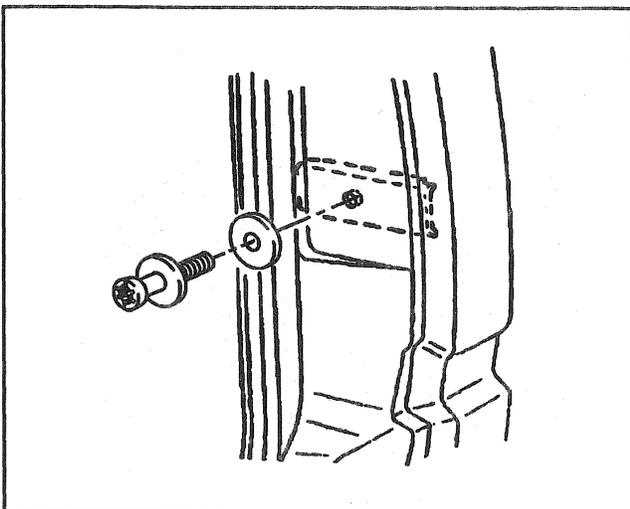

Figure 21—Door Striker
Remove or Disconnect (Figure 21)
Install or Connect (Figure 21)
- Door striker bolt using J 29843-9 or equivalent (Figure 21).
**Adjust (Figures 21 and 22)**